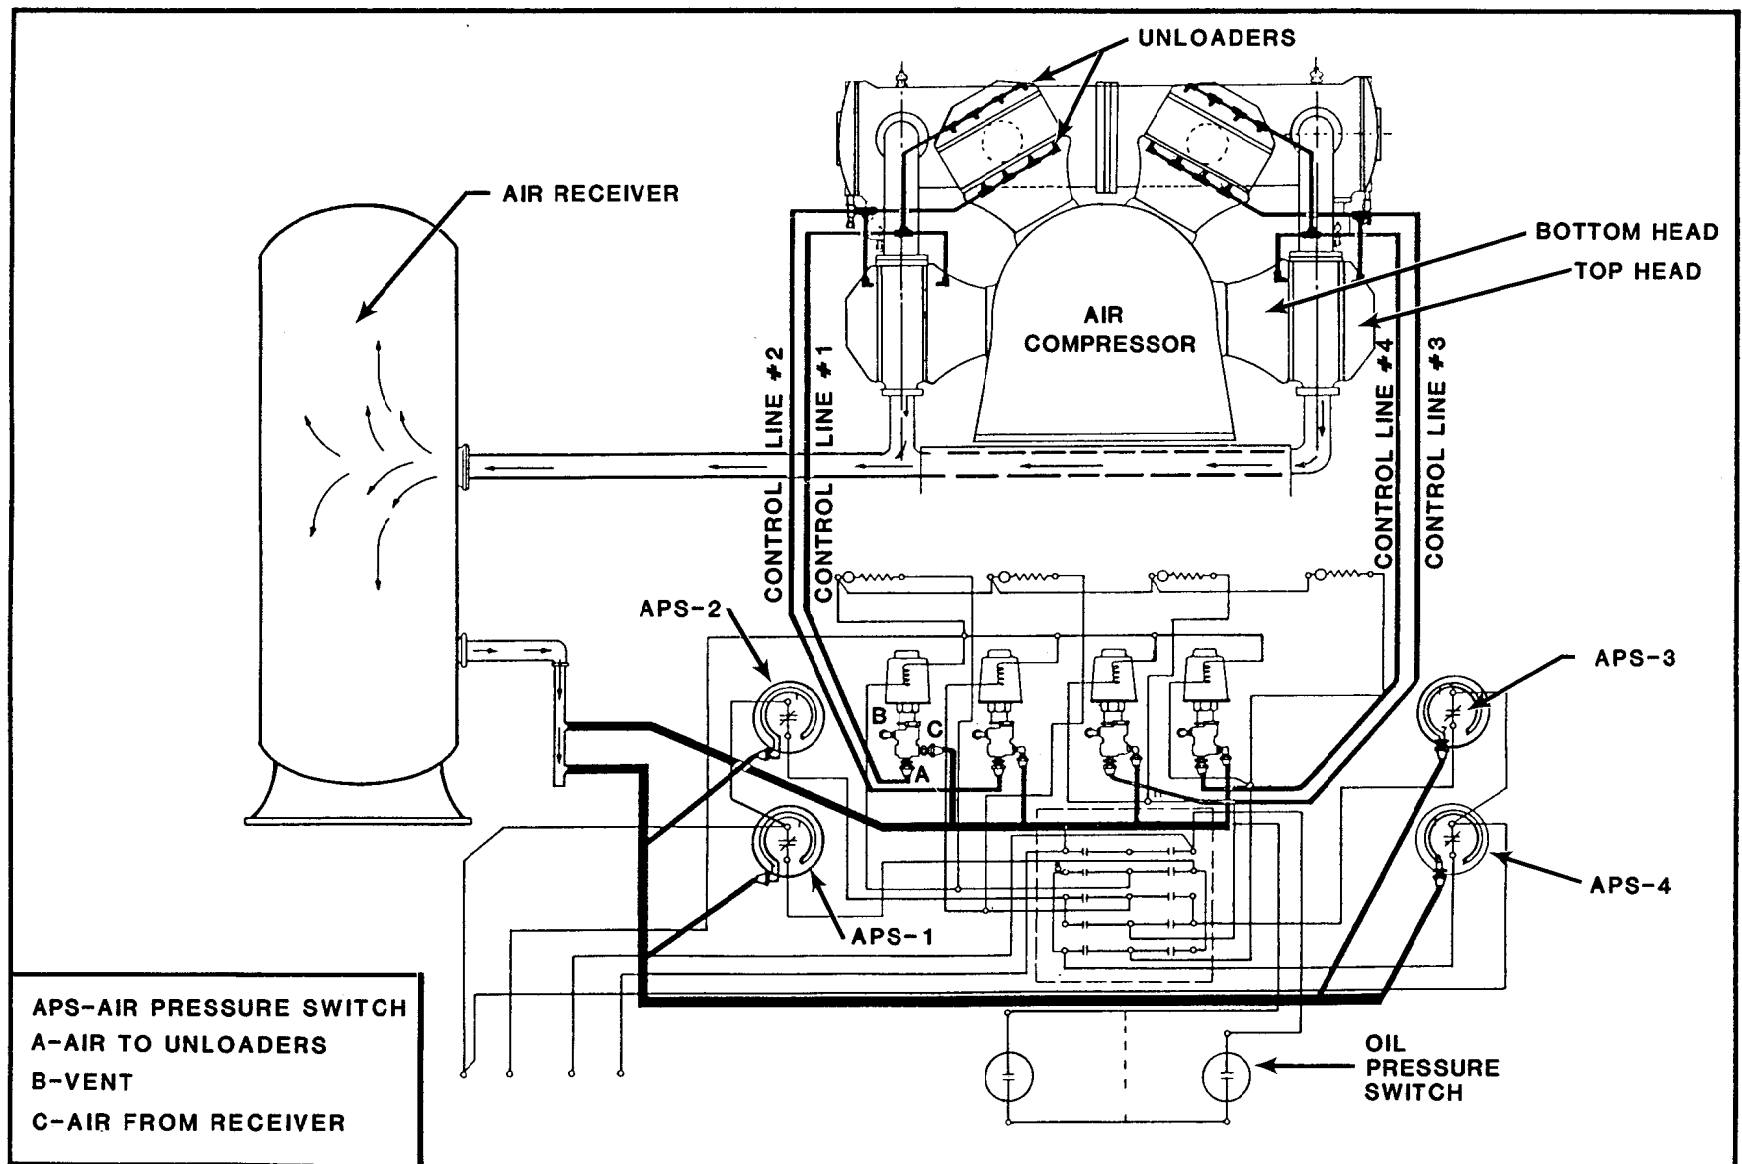

FIGURE 5-4. Airflow Diagram of Compressor With Five-Step Control
(1) Figure 5-4 shows a typical airflow diagram of a five-step capacity control system applied to a two-stage, four-cylinder, double action reciprocating compressor. Assuming that the compressor is required to maintain a pressure of 93 to 100 psi, the pressure switches would be set to load and unload as follows: air pressure switch (APS) No. 1, load at 93 psi, unload at 97 psi; APS No. 2, load at 94 psi, unload at 98 psi; APS No. 3, load at 95 psi, unload at 99 psi; and APS No. 4, load at 96 psi, unload at 100 psi. As the receiver pressure reaches the high setting of each pressure switch, 25 percent of the compressor capacity unloads. As receiver pressure falls to the low setting of each switch, 25 percent of the compressor capacity loads. APS No. 1 therefore unloads 25 percent of the compressor capacity at 97 psi and loads 25 percent at 93 psi. As receiver pressure fluctuates between 93 and 100 psi, the compressor capacity varies in five steps: full, 75 percent, 50 percent, 25 percent, and zero capacity.
(2) To understand the operation of this five-step control system which combines the components previously described, refer to figure 5-4. When the compressor is started, the air pressure switches are closed and the solenoids in the unloader valves become energized so that receiver pressure cannot enter the unloading lines and compression is allowed to take place. As receiver pressure builds up and reaches 97 psi, APS No. 1 breaks contact, deenergizing the unloader and allowing 97 psi receiver air to enter control line No. 1, actuating the inlet valve unloader. Twenty five percent of the compressor has become unloaded and compression has been reduced from full to 75 percent capacity. Control lines Nos. 2, 3, and 4 operate in the same way as receiver pressure increases. At 100 psi, all cylinders are unloaded and air compression ceases, but the compressor continues to run under no load. As air is drawn off from the receiver, the pressure begins to drop. When the pressure falls to 96 psi, APS No. 4 makes contact and energizes the unloading of valve 4, which cuts off receiver pressure from the inlet unloader and vents the unloader pressure to atmosphere. The inlet valve unloader releases the inlet valve and normal compression takes place, loading the compressor to 25 percent capacity. If the demand for air increases and receiver pressure continues to decrease, control lines Nos. 3, 2, and 1 will load in sequence.